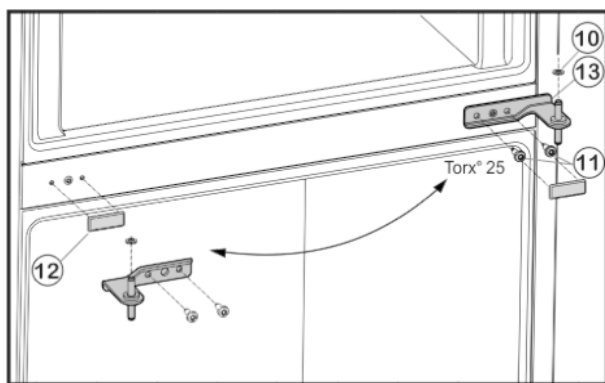

Fig. 5
- Unscrew the fastening screws Fig. 5 (11) (2 x Torx® 25) and pull the centre bearing block out of the lower door.
- Remove plastic washer Fig. 5 (10).
- Remove the cover Fig. 5 (12) carefully.
- Re-install the cover Fig. 5 (12) on the opposite side.
- Insert the centre bearing block Fig. 5 (13) turned through 180° into the lower door and fasten firmly (**with 4 Nm**) to the new hinge side with the fastening screws (2 x Torx® 25).
- Refit plastic washer Fig. 5 (10).